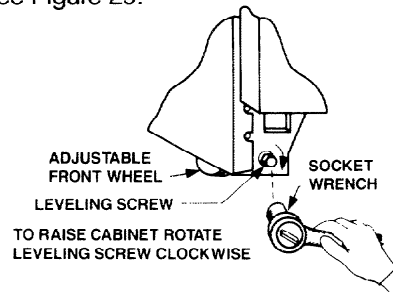

FIGURE 29
rear wheels. Adjust the front wheels or leveling feet to level the refrigerator. To raise, turn screw or leveling feet clockwise. To lower, turn counterclockwise. See Figure 29.
- A. Lower the front wheel (turn the screw counter-clockwise one turn at a time) on the side of the refrigerator which has the lower door. See Figure 29.